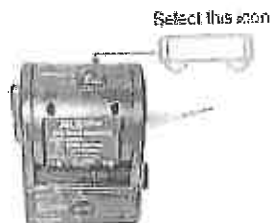

Fig. 1: Motion Sensor setting
1. Connect the Motion Sensor to one of the sensor ports on the top end of the GLX. Put the range selection switch on the top of the Motion Sensor to the 'near' (cart) setting as shown in figure 1.